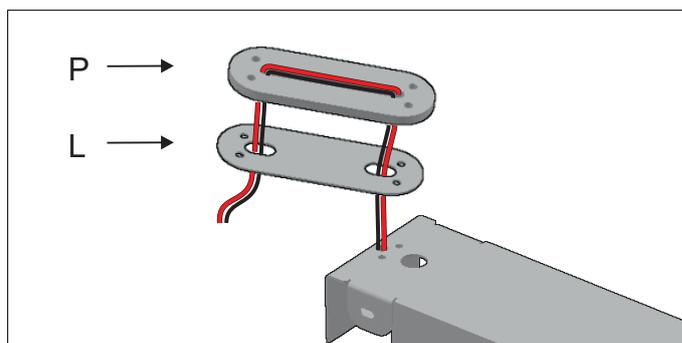

Figure 4D
Insert the cables coming from the driver through the decorative cover (L) and fit them into the slot in the union part (P). Figure 4D